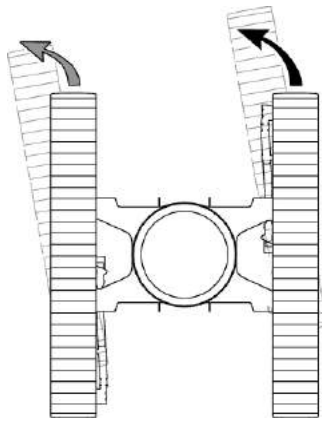

Figure 3-24. Travel Left (gradual turn)
11. To make a GRADUAL LEFT TURN (Figure 3-24), move both crawler handles to front from the neutral position. Move the right crawler control handle farther to the front than the left crawler handle. The right crawler will turn faster than left crawler.